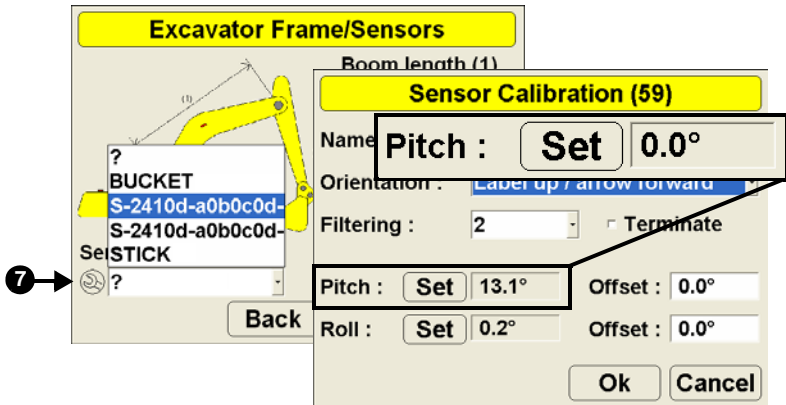

Figure A-10. Set Pitch Value to Zero
6. Tap the Wrench button that corresponds to the boom sensor (Figure A-10 on page A-11).
7. Set the pitch to zero and press Ok (Figure A-10 on page A-11).